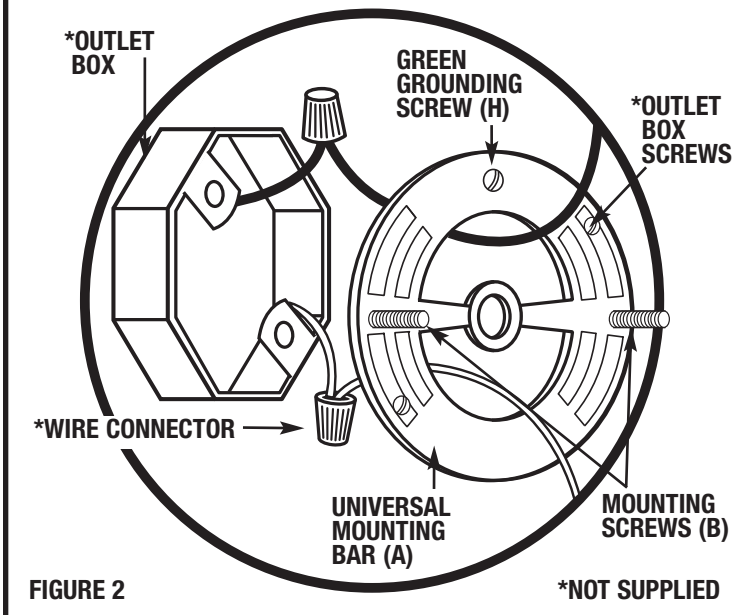

FIGURE 2
GROUNDING INSTRUCTIONS: The green grounding screw (H) is to be inserted into the hole with two raised dimples provided on the universal mounting bar (A). Wrap the ground wire from the fixture (if supplied) and the ground wire from the outlet box (bare metal or green insulated wire) around the green grounding screw (H) on the universal mounting bar (A). If uninsulated ground wire is on the universal mounting bar (A), connect the ground wire from the fixture (if supplied) and the outlet box to it using a small wire connector (not supplied) (See Figure 2).